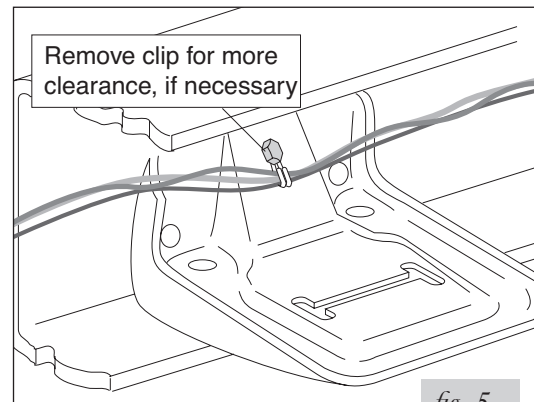

fig. 5
3. It may be necessary to remove the clip holding the lines on the inside of the frame rail to provide access to the existing bolts (Figure 5).